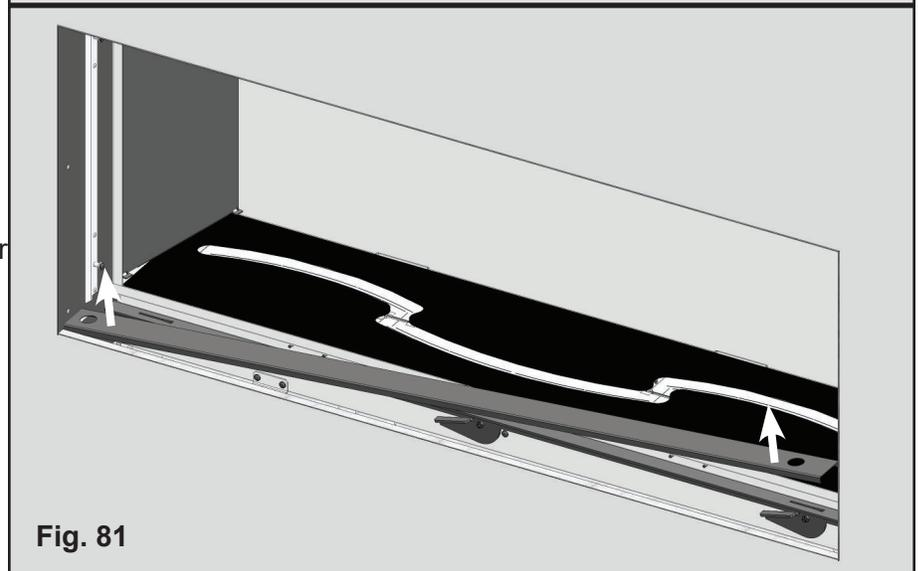

Fig. 81
3. Remove the valve access cover using the finger holes at each end, set it aside. (**Fig. 81**)